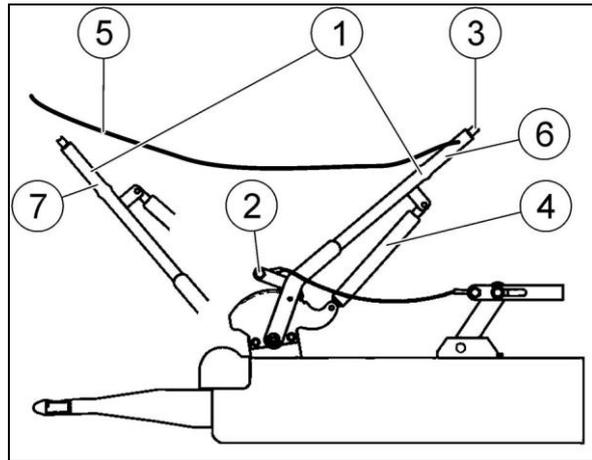

Fig. 77
1. Strongly pull the contact breaking cable (Fig. 77/5) from the tractor before leaving the tractor.
- The hand brake lever (Fig. 77/1) swivels forward past the dead centre to position (Fig. 77/7) and the parking brake is applied.